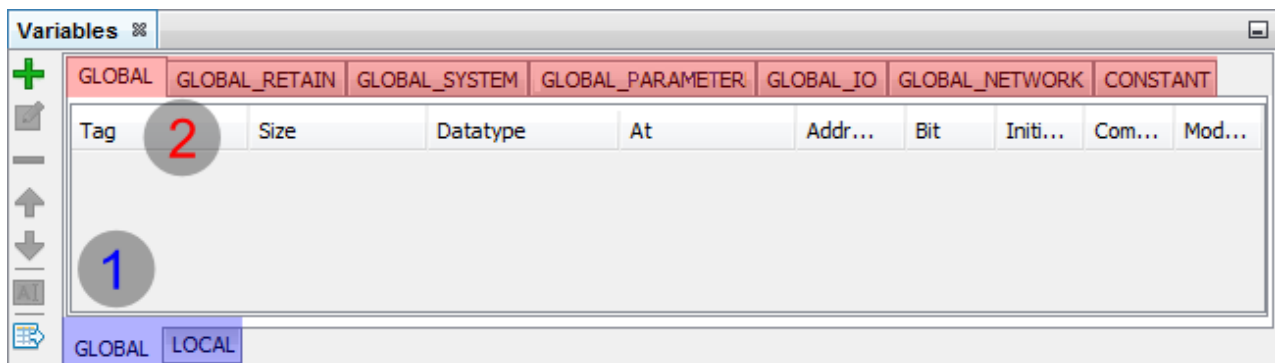

Figure 1: Variable Editor for the "GLOBAL" Scope
The variables of the **GLOBAL** scope (1) present the groups (2) as shown in figure 1.